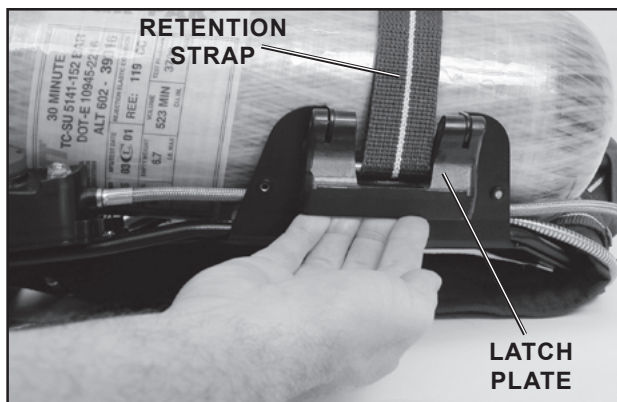

FIGURE 6
6. Connect the RIC UAC filling hose assembly by pushing the quick disconnect coupling on the RIC UAC filling hose assembly on to the coupling on the respirator until the quick disconnect sleeve “clicks” into place. See FIGURE 6.
4. Disengage the cylinder retention strap by gripping the latch plate as shown in FIGURE 6 and lifting on the end of the latch.
3. The assistant will stand behind the respirator user and disengage the cylinder retention strap by gripping the latch plate as shown in FIGURE 6 and lifting on the end of the latch.